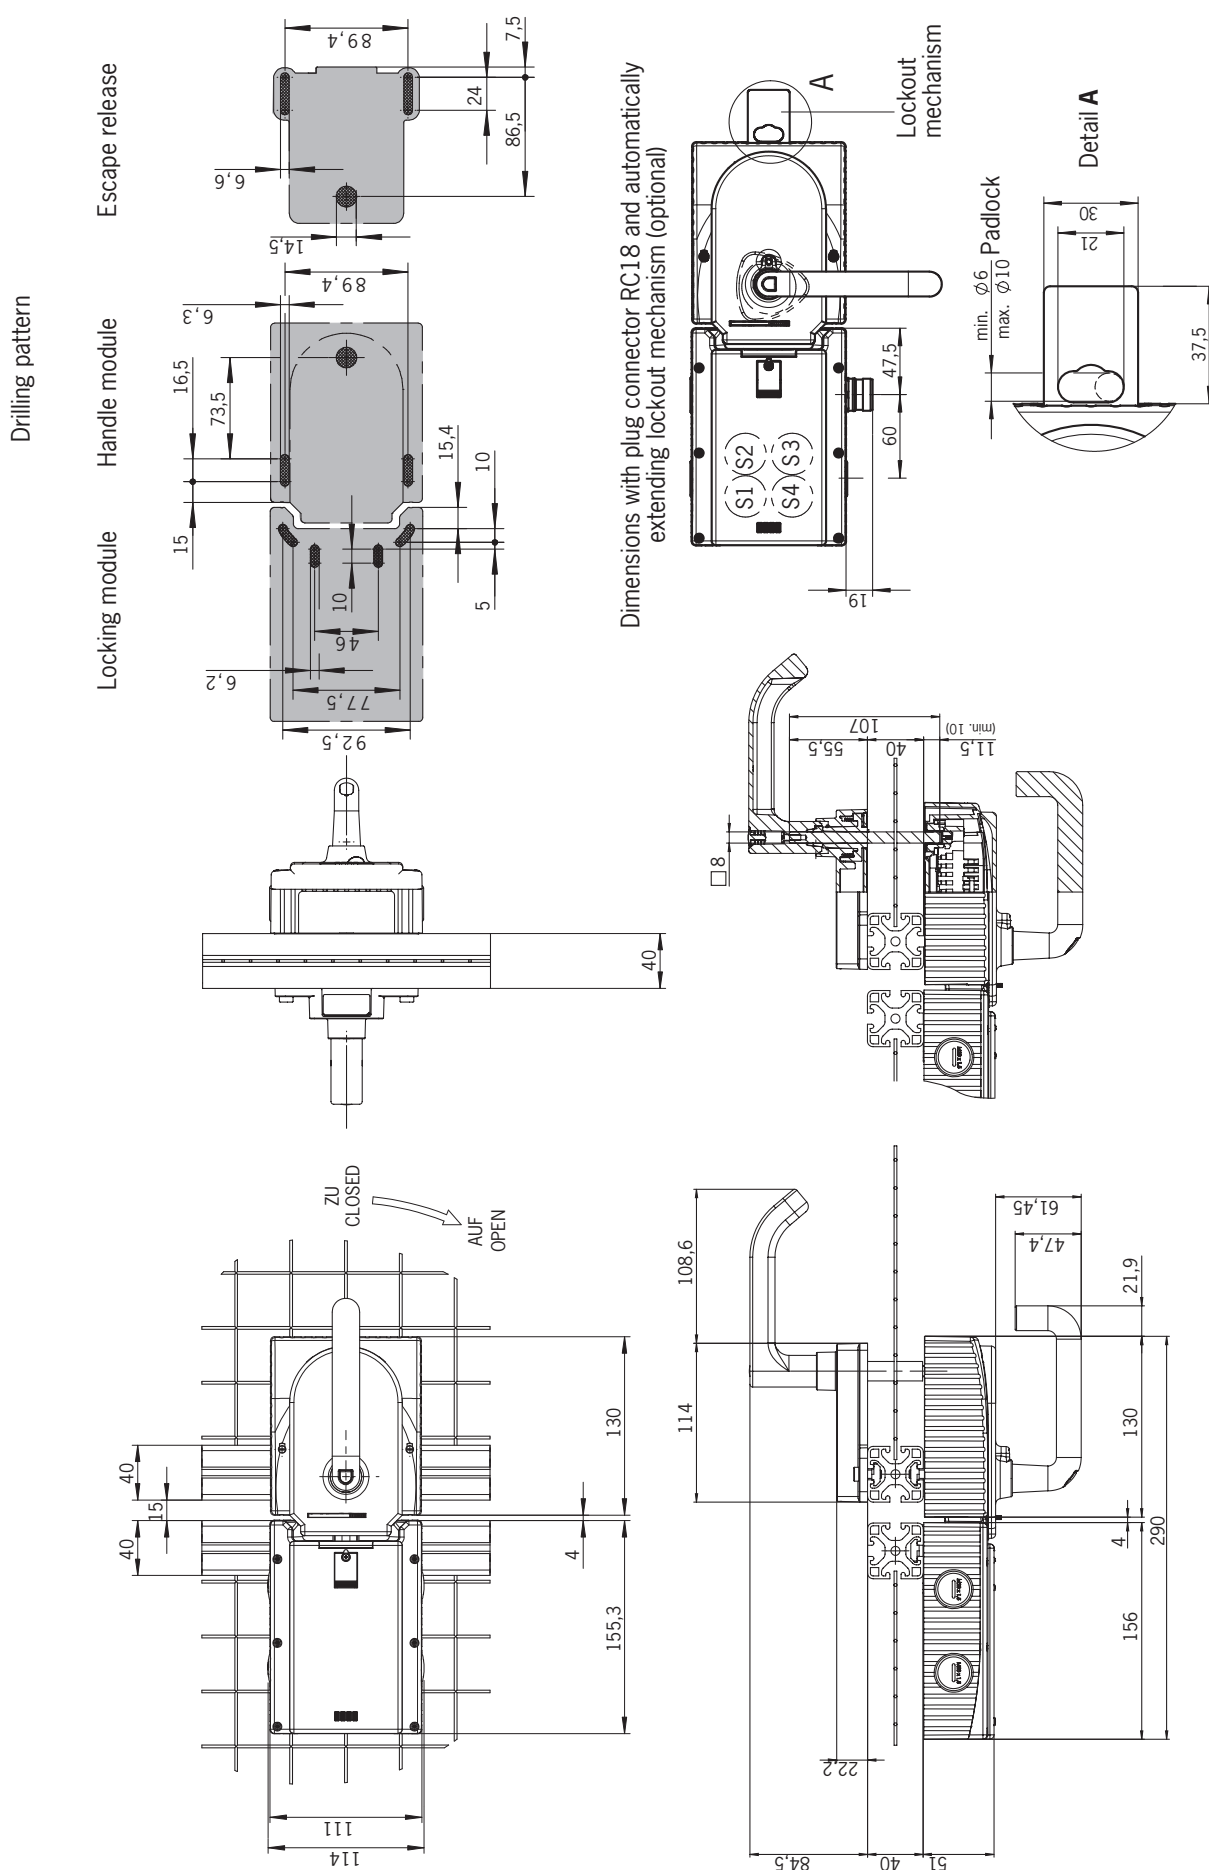

Figure 4: Dimension drawing MGB fitted, without optional mounting plates
- › Align escape release axis at right angles to the handle module. See *Figure 4* and *Figure 8*.